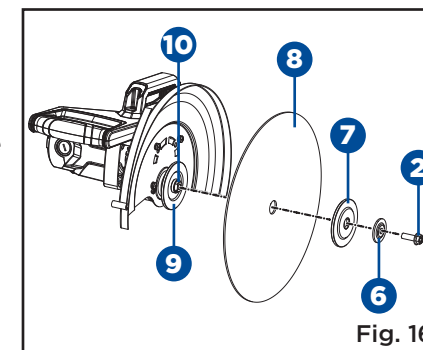

Fig. 16
- Remove the arbour bolt (2), small flange (6), outer flange (7), abrasive wheel (8) and inner flange (9) from the arbour (10). (Fig. 16)